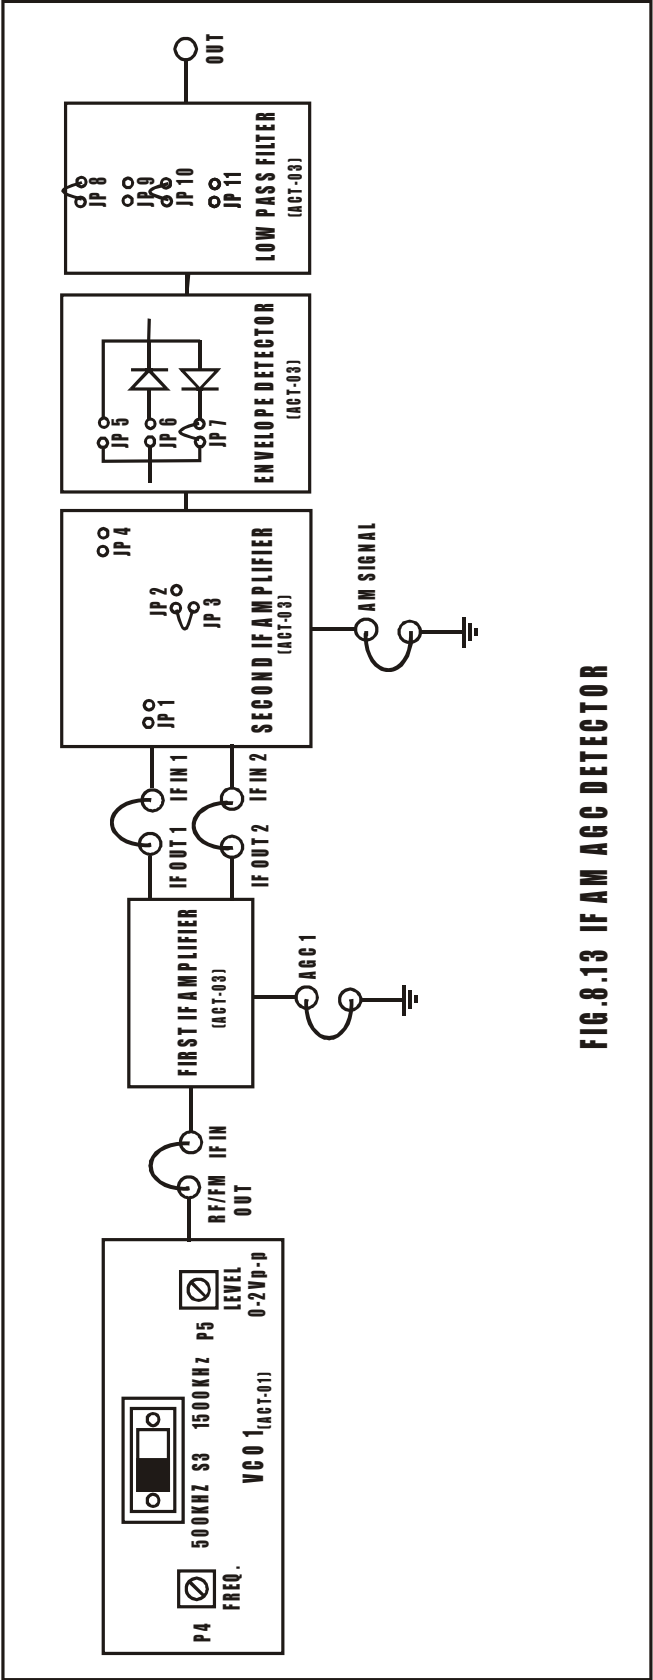

FIG.8.13 IF AM AGC DETECTOR
- Refer to the fig.8.13 & Carry out the following connections and switch settings.
- Set the circuit as in fig. 8.13, to obtain a 2-Stage IF amplifier with amplitude detector and Automatic Gain Control (connect jumpers JP3, JP7, JP8 and JP10 and keep jumpers JP1, JP2, JP4, JP5, JP6, JP9 & JP11 open). The